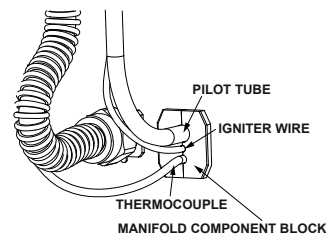

FIGURE 37.
- Position the new pilot tube through the largest opening of the manifold component block. **NOTE:** The largest opening should be located at the top position. The igniter wire should be located in the middle opening and thermocouple in the bottom opening (Figure 37).